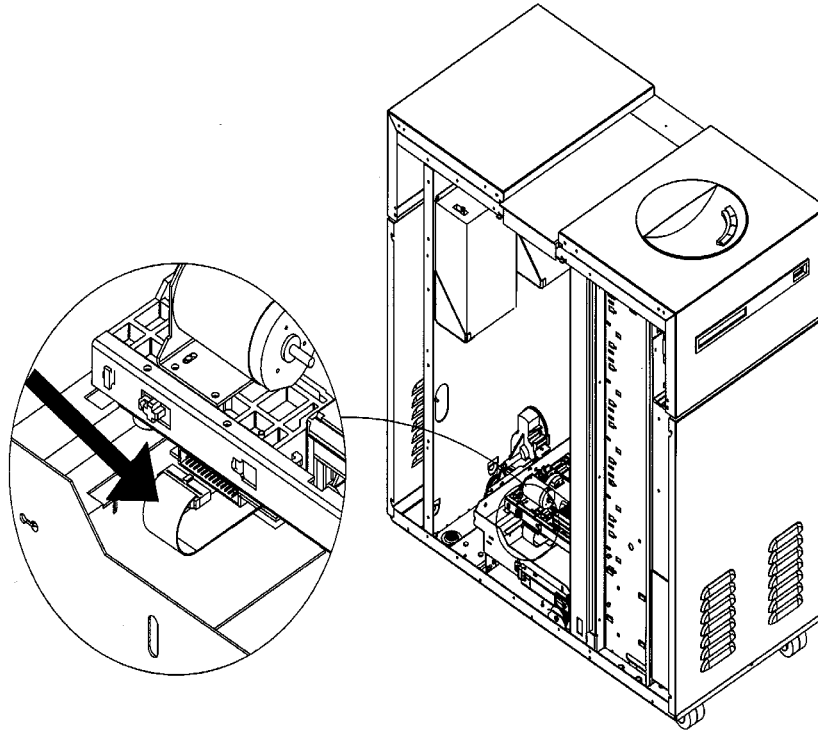

Figure 61: Picker Umbilical Cable
Extra panels are removed in Figure 61 for parts visibility in this description.
2. Pull the tab on the end of the picker umbilical cable to disconnect the cable from the bottom of the picker (see the arrow on Figure 61).